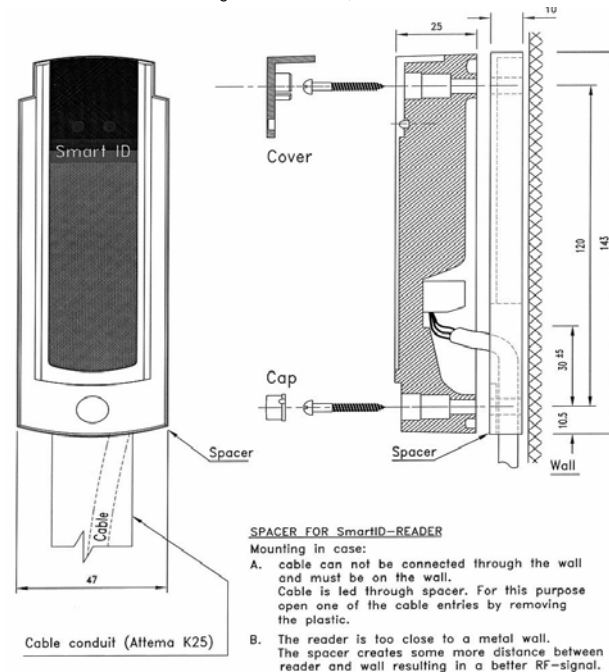

Figure 5 Mounting Plate Spacer
- Figure 5 Mounting Plate Spacer.....